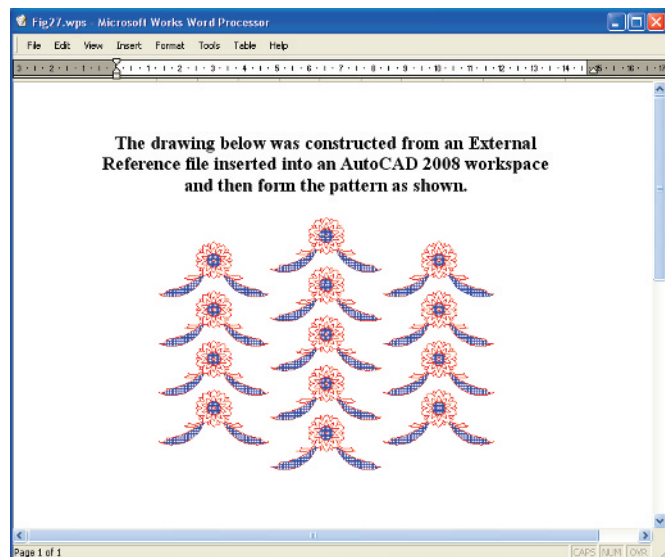

Fig. 10.30 Exercise 4 – an example
4. Using **Copy** from the **Insert** drop-down menu, copy a drawing from AutoCAD 2008 into a Microsoft Word document. An example is given in Fig. 10.30. Add some appropriate text.